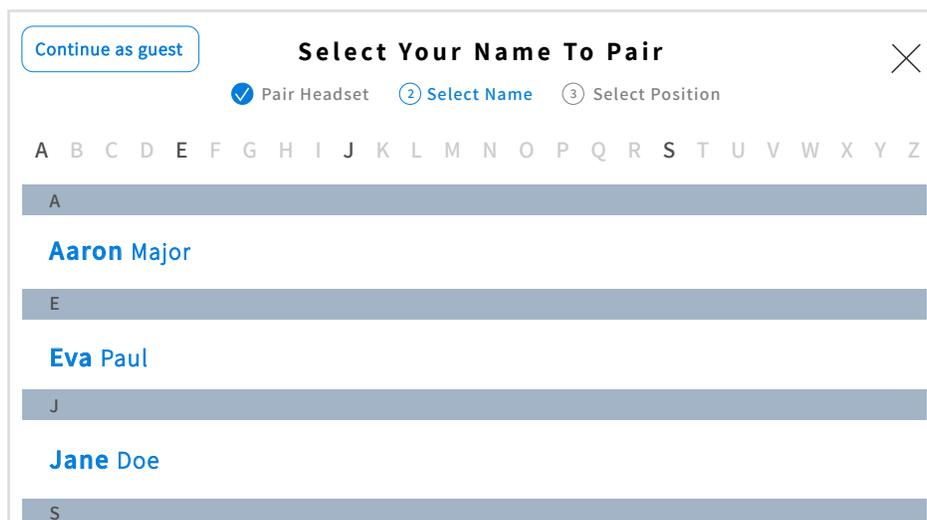

Fig. 1.22
- \*\* The person you are calling must have their name in the Crew Profile directory, see Fig. 1.22 for example. You cannot call an individual if they are using the headset as a guest. First names, last names, or full names can be used. For example, if there are two crew members with the same first name, then the headset will prompt you to use the last name of the person you wish to talk to. You must tap  on the headset to exit this state and return to your previous status.
If there is an existing Crew Profile, then the **Select Your Name To Pair** dialog opens (see Fig. 1.22). Tap on your name if it already exists (names are listed in alphabetical order, so you may have to scroll down the list to find it), or tap on the **Continue as guest** option in the upper left corner if you don't have a profile.